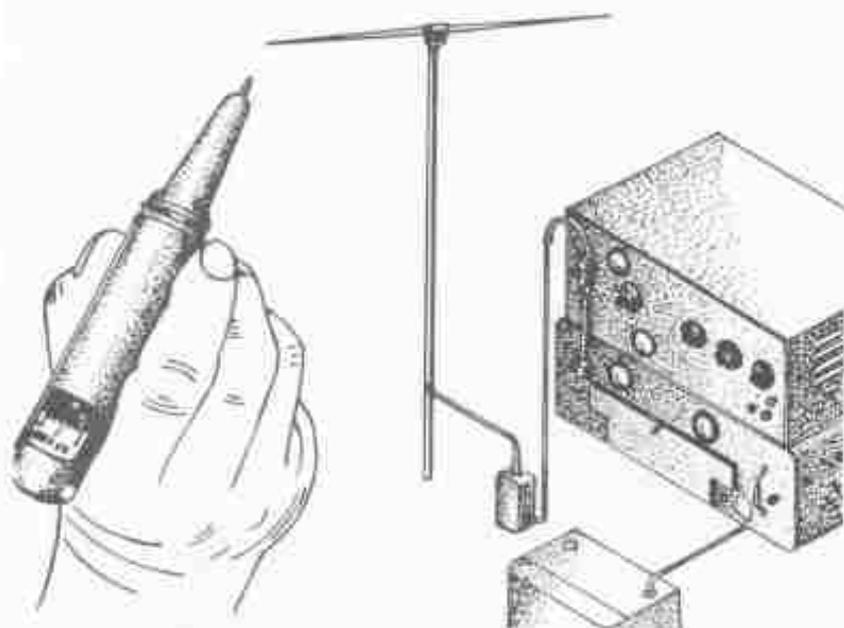

Figure 4-12. Checking RF Output of Radio Transmitter at Antenna with RF Indicator-Probe
(1) The RF Indicator-Probe will indicate the presence of intense radiation from antennas or RF transmitters. Figure 4-12 shows the method of use of this Probe near an antenna. This is a direct test for radi-